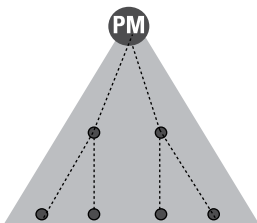

Figure 9-2: The hierarchy.
- The hierarchy:** This allows some communication at lower levels, but referral through higher level managers for communication across teams. It can lead to delays and misunderstandings ('chinese whispers'), but it does put the managers in control. Figure 9-2 shows the structure of a typical hierarchy.